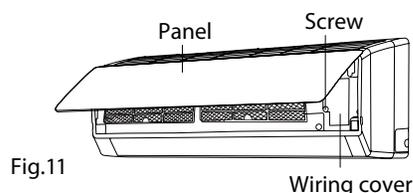

Fig.11
1. Open the panel, remove the screw on the wiring cover and then take down the cover.(As show in Fig.11)